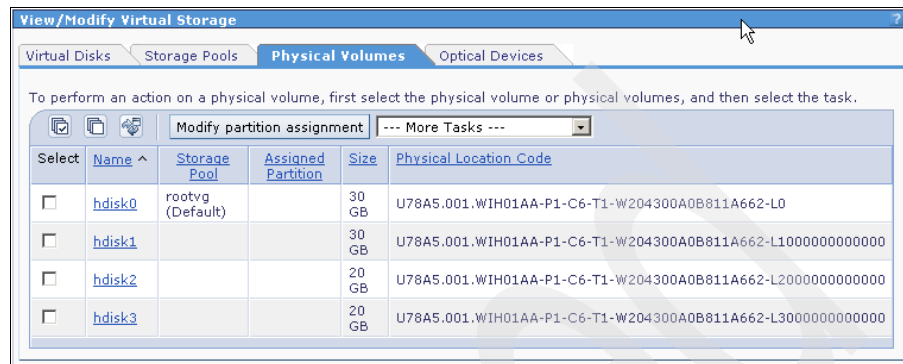

Figure 6-14 Available physical volumes
- In the **View/Modify Virtual Storage** page, select the **Physical Volumes** tab to see a list of available hard drives to the VIOS. See Figure 6-14. Verify that the expected drives are available.